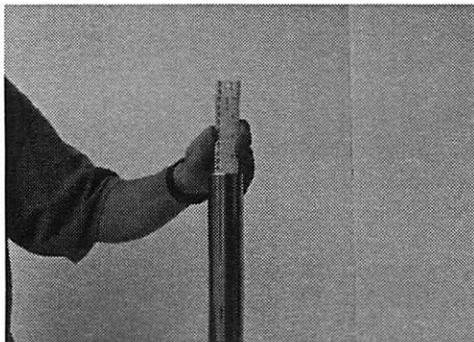

Figure 5.12
16. Holding the fork leg perpendicular to the ground, insert a narrow steel ruler into the fork until it just touches the top of the oil. Measure to the top of the inner fork tube. This is the fork oil level. (Figure 5.12)